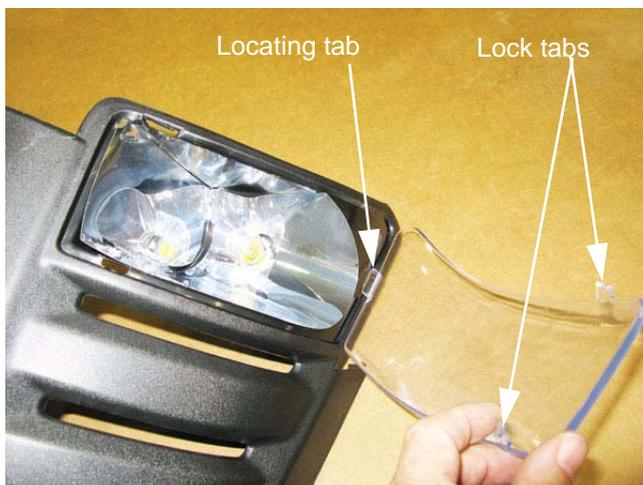

Figure 4.10
4. Once removed, the headlight lens may be removed for cleaning by carefully prying the two lock tabs at the inner edge. See Figure 4.10.